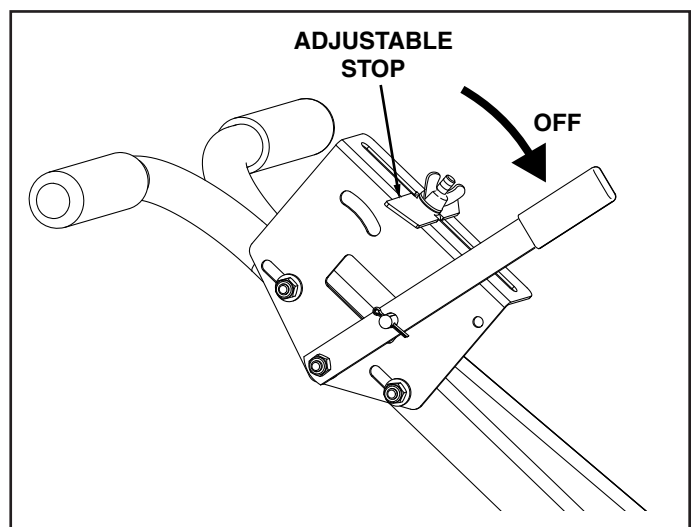

FIGURE 11
- c. Push the flow control lever to the "OFF" position and ensure the closure plate closes completely. See figure 11.